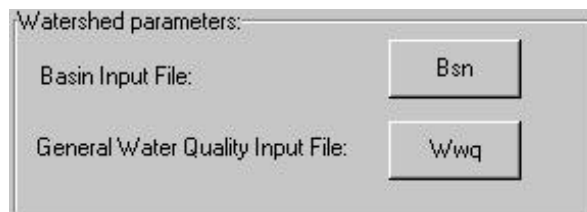

Figure 13.16
- l. **Watershed Parameters.** Within this section, the user can access parameters in two additional input files (Figure 13.16).